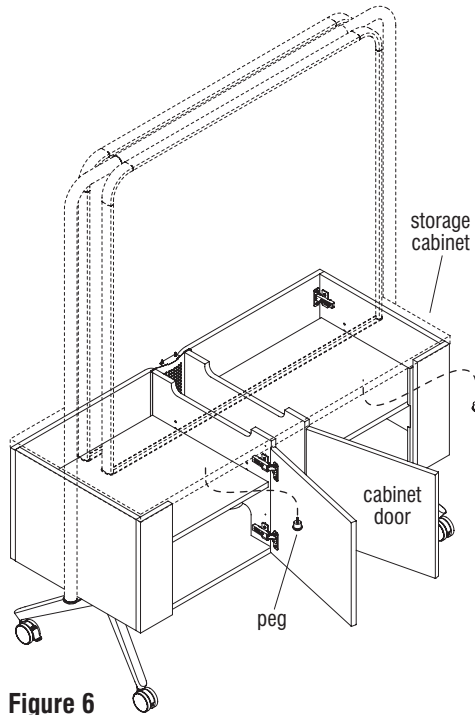

Figure 6
1. Open both doors on the ganging side of the storage cabinet (reference page 4) (Figure 6).
2. Locate the pre-drilled peg mounting locations on the underside of the storage cabinet top, one per storage cabinet half. Install a peg to each location using a #14 x 1½" wood screw at each peg mounting location (Figure 6 & Detail H).